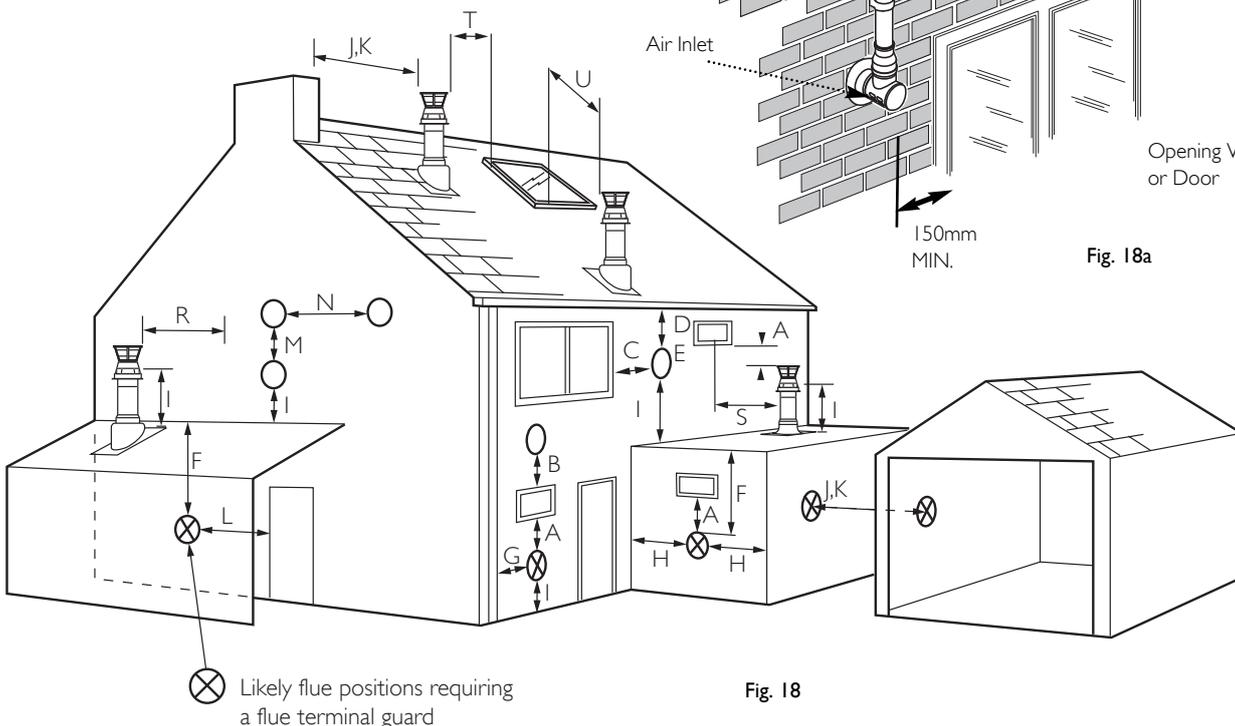

Fig. 18
**Terminal Position with Minimum Distance (Fig. 18) (mm)**